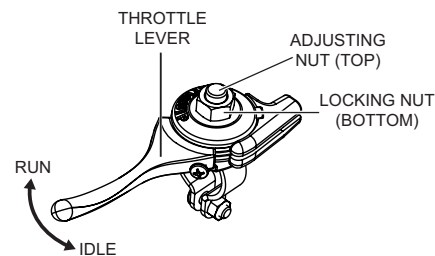

Figure 8. Throttle Cable Receiver Adjustment
7. Adjustment of the throttle cable tension may be required. If so, loosen the **adjusting nut** (top nut) on the throttle cable receiver (Figure 8) and loosen or tighten the **locking nut** (bottom nut). Retighten **adjusting nut**.